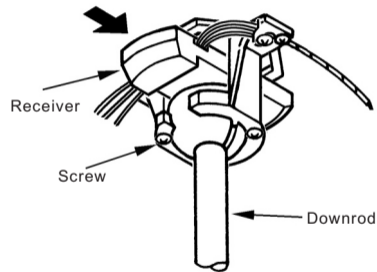

Fig.15
**Step 1:** Insert the receiver unit into the hanger bracket with the flat side of the receiver facing the ceiling. (Fig.15)